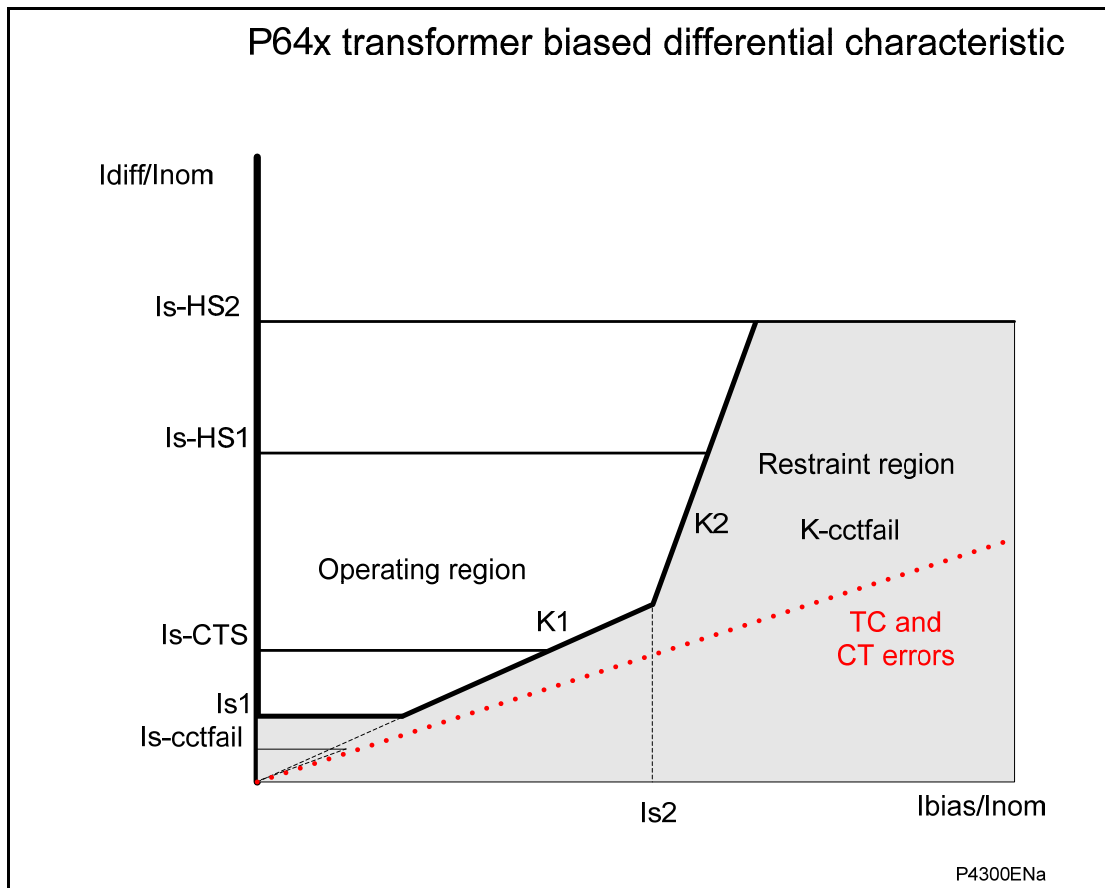

Figure 20: Tap changer and CT combined errors
As shown in Figure 20, the first slope is flat and depends on the Is1 setting. It ensures sensitivity to internal faults. The second slope, K1, is user settable. K1 ensures sensitivity to internal faults up to full load current. It allows for the 15% mismatch which can occur at the limit of the transformer's tap-changer range and an additional 5% for any CT ratio errors. The K1 slope should be set above the errors due to CT mismatch, load tap changers and steady state magnetizing current. The errors slope, which is the combined tap changer (T/C) and current transformer (CT) error, should always be below the K1 slope to avoid mal operations. It is recommended to set K1 to 30%, as long as the errors slope is below the K1 slope by a suitable margin. The second slope, K2, is also user settable, and it is used for bias currents above the rated current. To ensure stability under heavy through fault conditions, which could lead to increased differential current due to asymmetric saturation of CTs, K2 is recommended to be set to 80%.